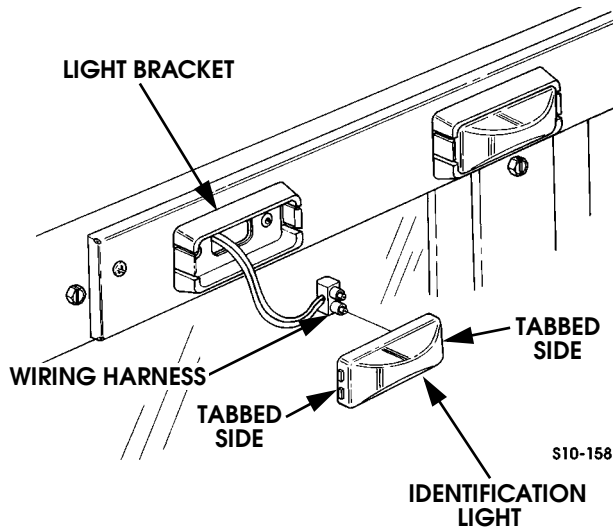

Figure 10-161: Identification Light Replacement
1. Carefully pry tabbed sides of identification light from light bracket (Figure 10-161).
1. Connect identification light to wiring harness (Figure 10-161).